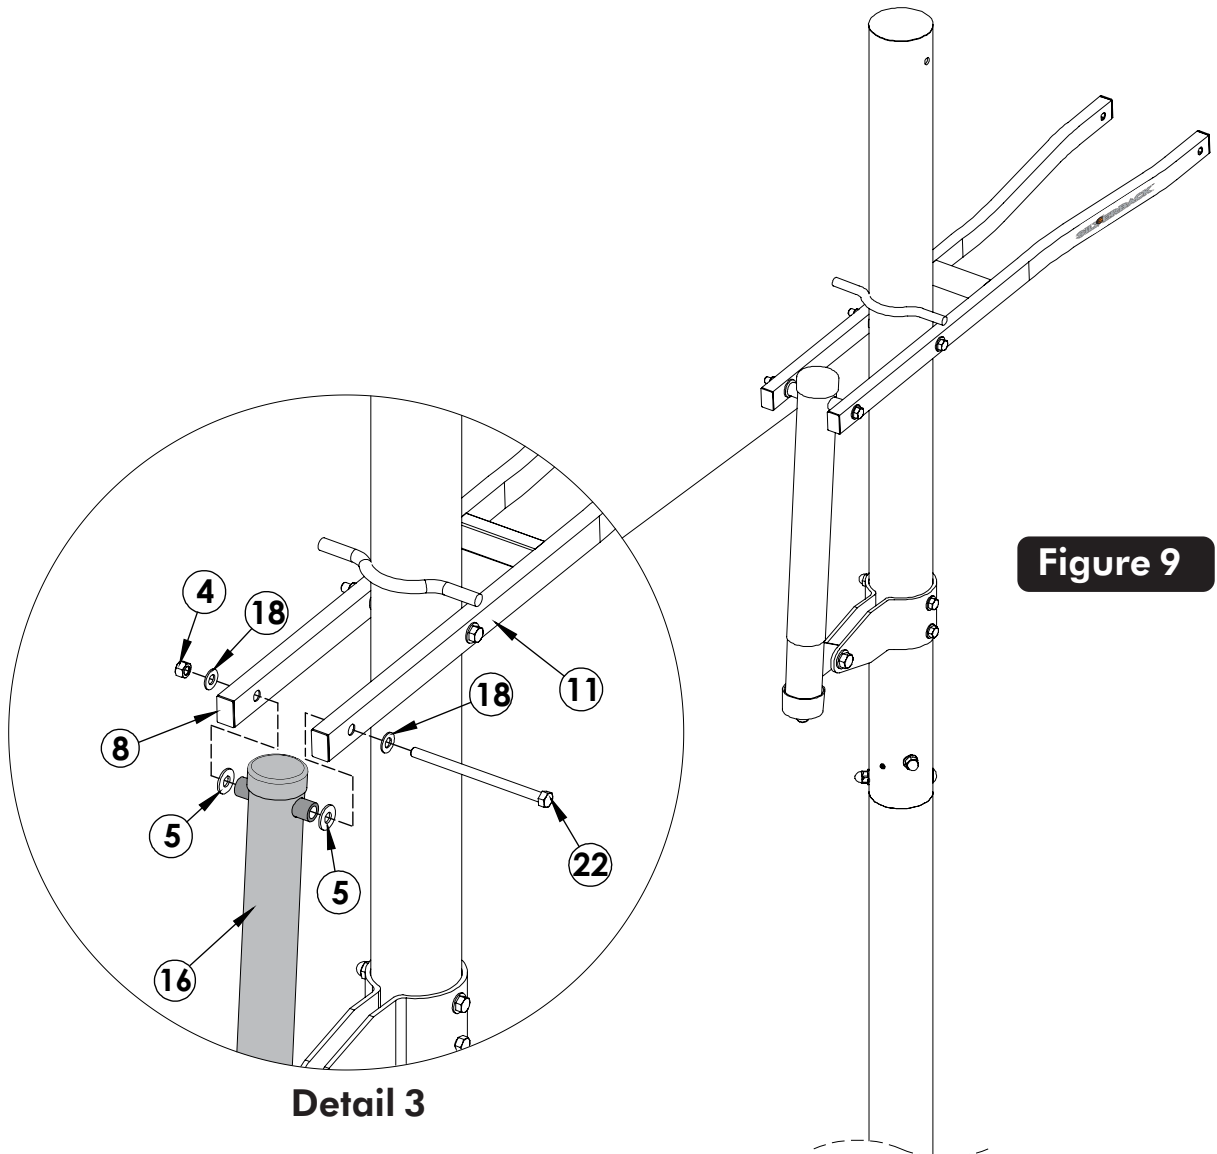

Figure 9
18. Secure actuator (#16) to lower arms (#11) using one bolt (#22), two flat washers (#18), two plastic washers (#5) and one lock nut (#4). See **Figure 9** and **Detail 3**. Tighten both bolts (#22) snug but, do not over tighten. Board arms must pivot freely.